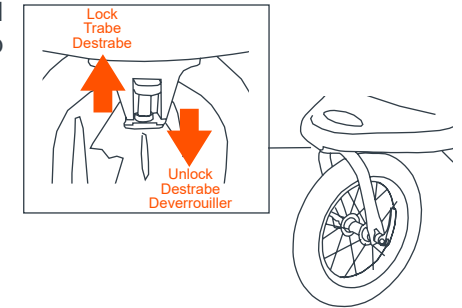

Fig. 15
- 15) • The swivel wheel is equipped with a front wheel locking device. Front wheel lock works in a vertical motion from top to bottom, locking and unlocking the wheel (Fig. 15).